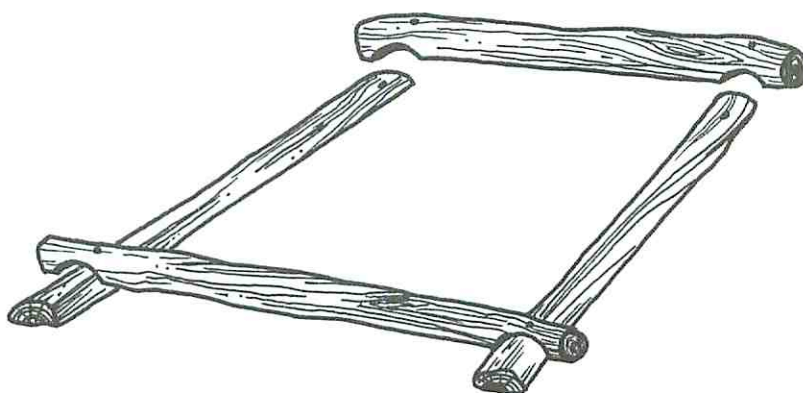

Figure 1
Take the two secondary wall support pieces (B) and make round notches in each end. Attach the notched pieces to the half-rounds and secure with screws. See Fig. 1.